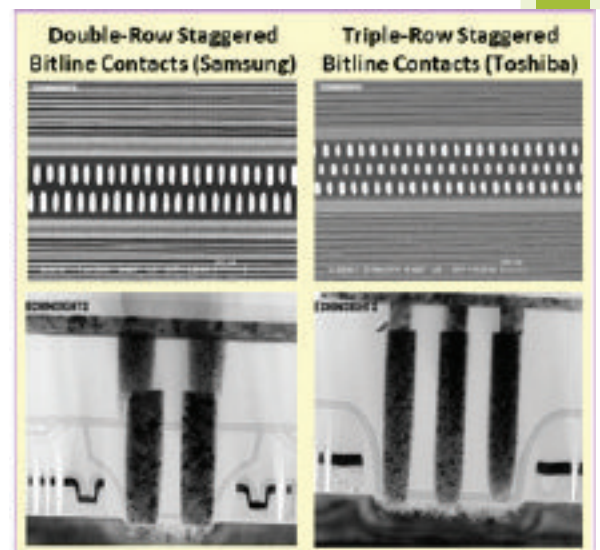

FIGURE 4. Double- and triple-row staggered bitline contacts (Source: TechInsights).
Triple-row staggered bitline contacts (BC) are used on Toshiba/SanDisk for the first time which is an excellent choice to make things smooth for cell layout and process integration although NAND string overhead is increased from 13% to 19%. Other players still use double-row staggered BC layouts on their 15nm/16nm NAND products (**FIGURE 4**).